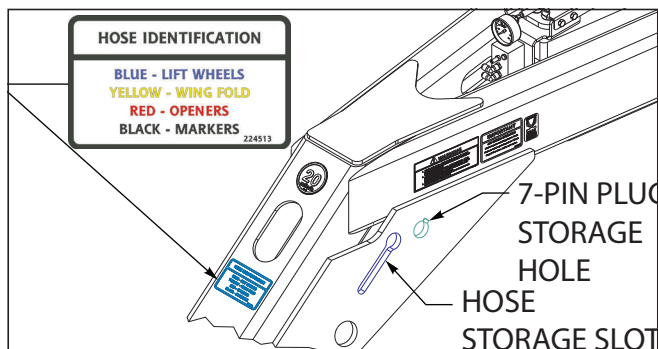

Figure 5-2: Hose Decal
1. The hydraulic hoses are color coded to help identify and match the attaching hoses on the Grain Drill. An identification decal is placed on the front of the hitch to help identify the hoses ***See Figure 5-2.***
f. Disconnect the hydraulic hoses and place in the storage slots on the sides of the hitch *See Figure 5-2*.
g. Unplug the seven-pin electrical connector and store in the hole on the either side of the hitch *See Figure 5-2*.